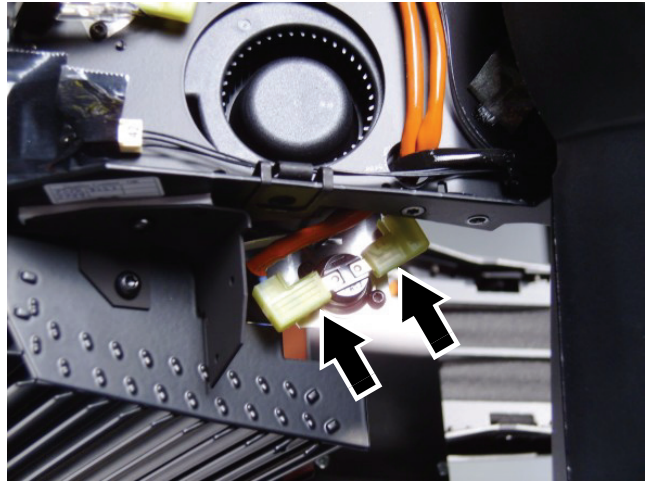

Figure 46
51. See Figure 46. Disconnect the leads (arrowed) from the thermoswitch on the right-hand side lamp fan assembly.
53. See Figure 48. A total of four new fans are supplied in the upgrade kit. The two new lamp cooling fans (right-hand fan with thermoswitch = P/N 62406058 and left-hand fan = P/N 62406064) are mounted on metal heat shields. Install the new fans with their heat shields, re-using the existing mounting screws. You are screwing into the plastic fan housings, so do not overtighten screws. Install the fan with the thermoswitch on the right-hand side of the fixture where the old thermoswitch was, and connect the spade connectors from the old thermoswitch (see Figure 46) to the new one. Do not route fan power leads to their connectors yet, as this is easier with the lamp leads from the ignitor to the lamp removed.